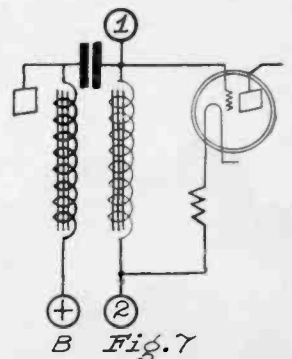

Fig. 7
- Fig. 7. In a double impedance coupled circuit the input voltage may be measured in this manner.